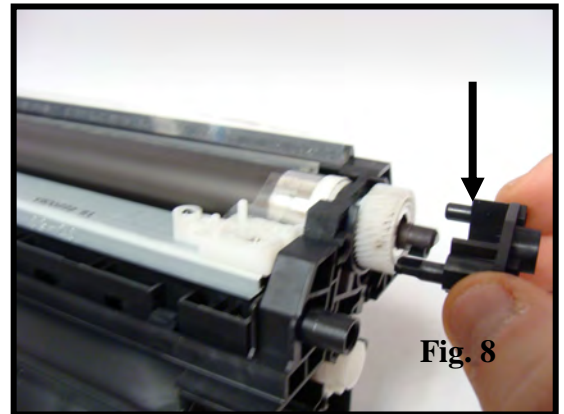

Fig. 8
8. Remove the mag stabilizer from the gear end of the toner hopper (Fig. 8).